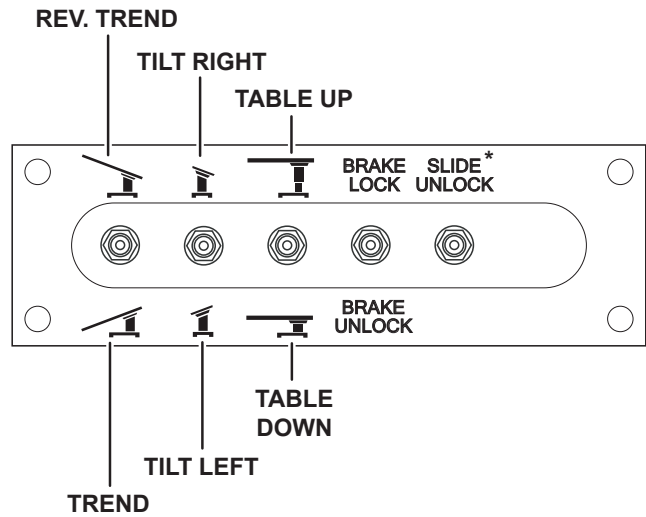

Figure 35. Control Panel Layout
2. Toggle the switch on the control panel (Figure 35) for the desired table control.